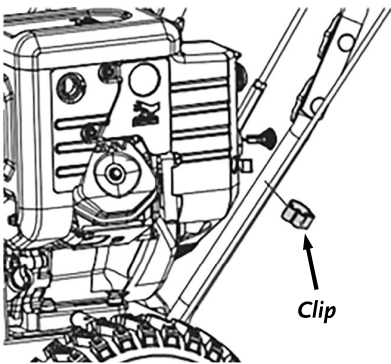

Figure 10
8. Use the Clip to lock the Steering Cables on their respective Handlebars (**Figure 10**).